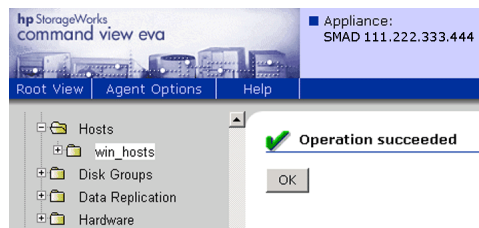

Figure 65: Operation succeeded page.
- 3) Enter a host name in the **Host name** field and a fictitious WWN in the box to the right of the Port WW Name field. In this example, a port WW Name of 1000-0000-0000-0000 is used. Click the **Add host** tab. An Operation completed page is displayed (Figure 65).